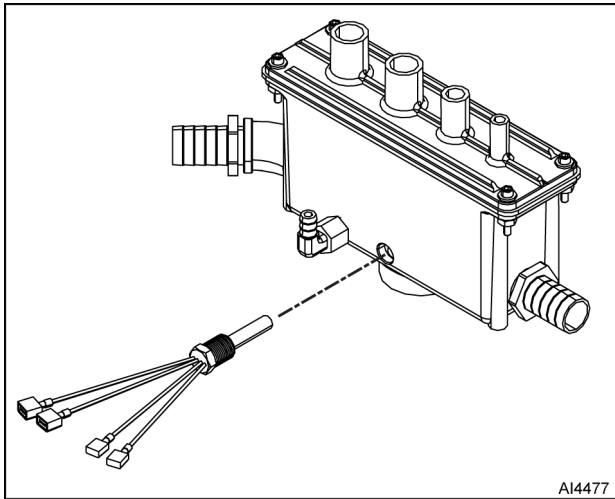

Fig. 22
3. Unthread condensate thermostat (Fig. 22) from drain box.